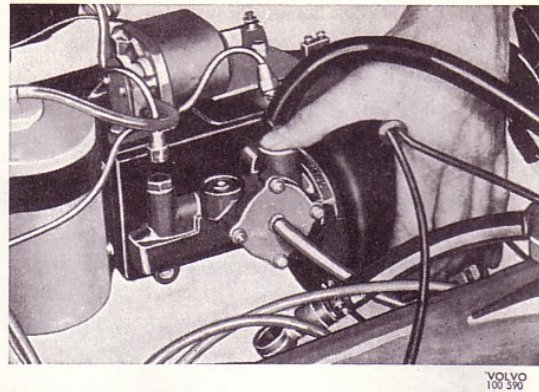

Fig. 44. Testing operation 1.
1. This testing operation must only be carried out on a servo brake cylinder from which all the brake fluid has been emptied. Place the servo brake cylinder in position on its bracket. Plug the hydraulic outlet and fit a hose connection in the hydraulic inlet. The hydraulic connections have a $3/8 \times 24 \text{ UNF}$ thread. Connect the vacuum line to the hydraulic inlet and remove the air filter. Start the engine and let it run at idling speed. With the help of a finger, check to see whether there is any air flow through the filter connection and the ordinary vacuum connection, see Fig. 44.